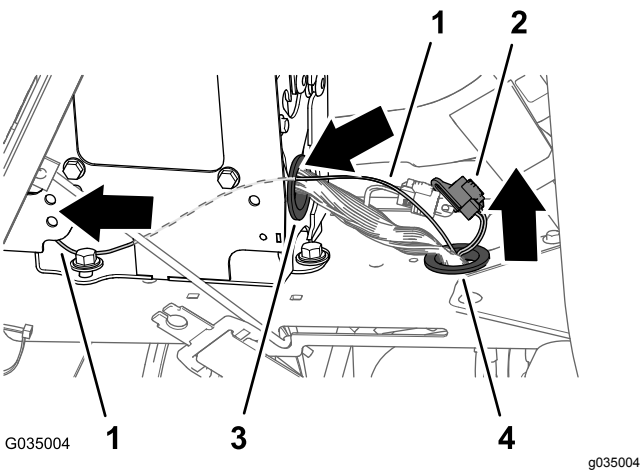

Figure 114
4. Route the 81 cm (32 inch) branch of the rear-wire harness along the front wire harness and up through the grommet in the console channel (Figure 114).
5. Route the 81 cm (32 inch) branch of the rear-wire harness forward along the front wire harness and through the grommet in the back of the center console (Figure 114).